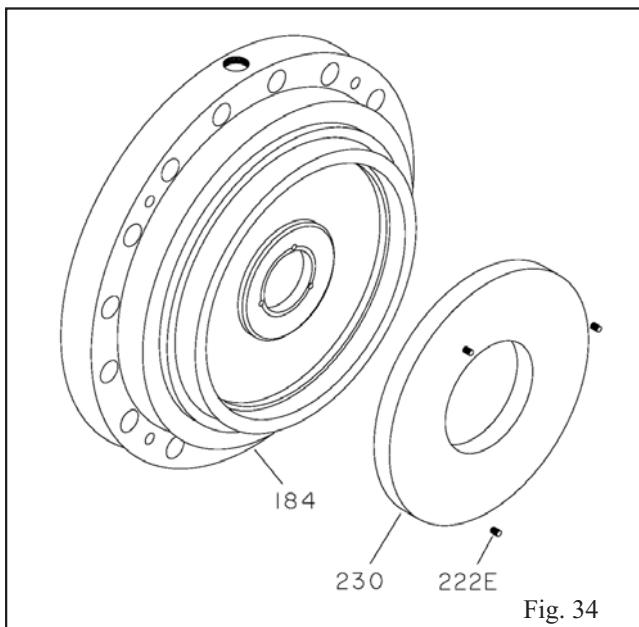

Fig. 34
- Chill new seal chamber cover wear ring (230), using dry ice or other suitable chilling substance, and install ring into fit of cover (184). Be prepared to tap the ring in place with a hardwood block or soft faced hammer (Fig. 34).